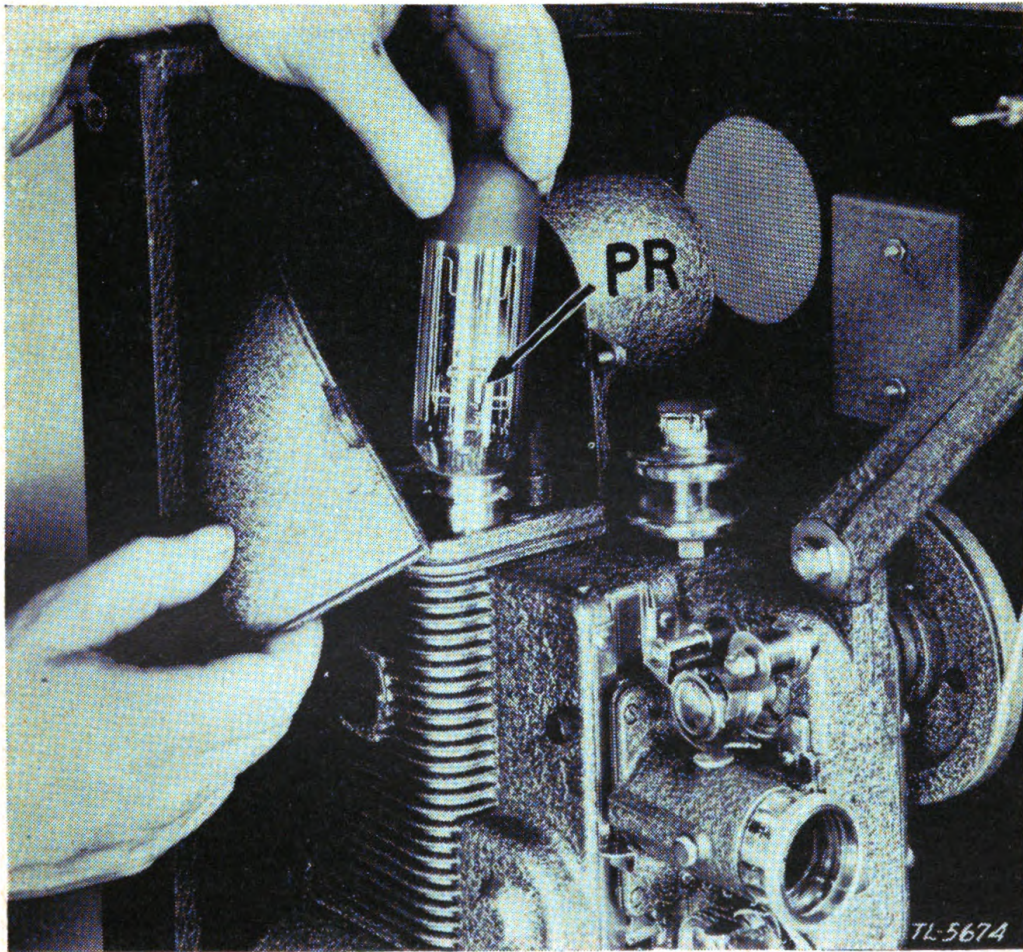

FIGURE 62.—Removing Phonofilm projector lamp.
b. Phonofilm.—Use the same procedure as in *a* above in replacing lamps in the Phonofilm. (See figs. 62 and 63.)